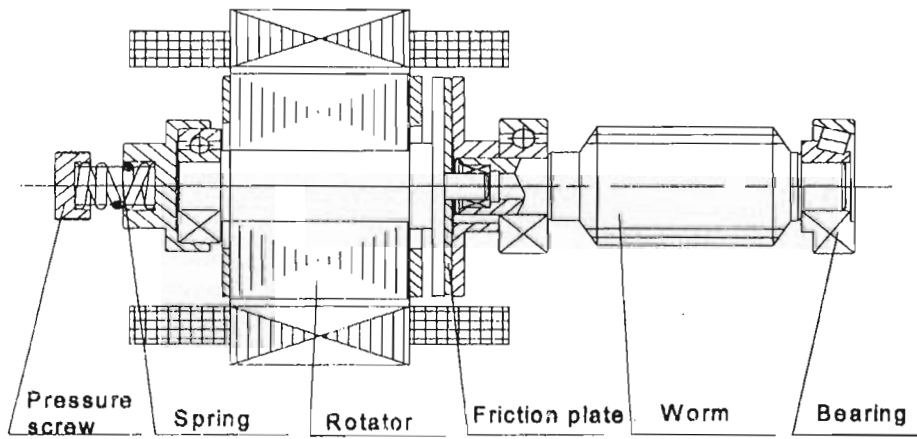

Fig.2
- The structure of the motor and worm is shown in Fig2. The pressure screw can be adjusted, press (or release) the spring to increase (or decrease) the pressure and the output strength as well.